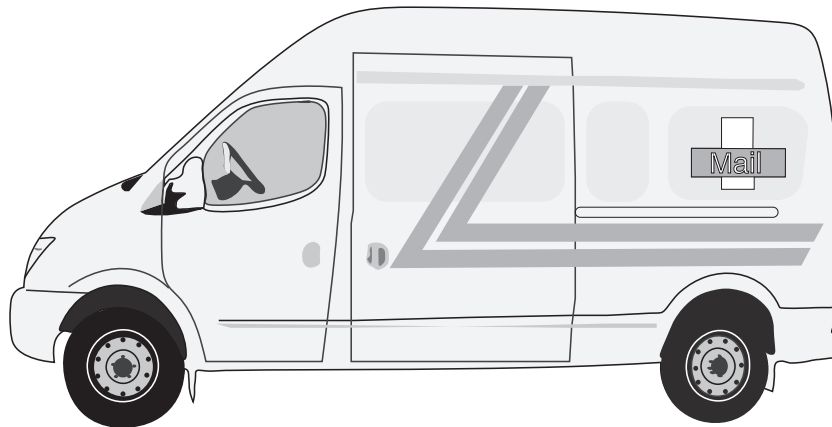

Figure 1
- (a) Figure 1 shows a van that has graphics in the form of vinyl cut signage.